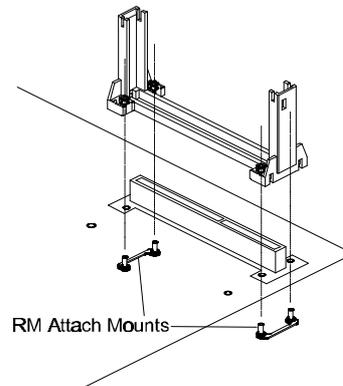
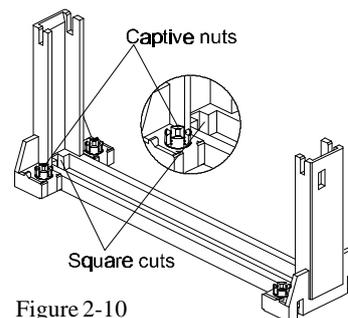

Figure 2-9
Figure 2-10
2. Install two Retention Mechanism Attach Mounts (RMAM) with Bolt/Bridge assemblies inserted up through the bottom of the mainboard. (Notice the RMAM's bridge orientation as Figure 2-9)
3. Insert the Retention Mechanism (RM) around the Slot 1. Be sure the Square Cut Mark of RM (Refer to Figure 2-10) have the same orientation of Slot 1 pin 1. (Refer to Figure 2-9)
4. Screw the four captive nuts (Refer to Figure 2-10) on the RM by a screw drive to secure RM to two RMAMs.